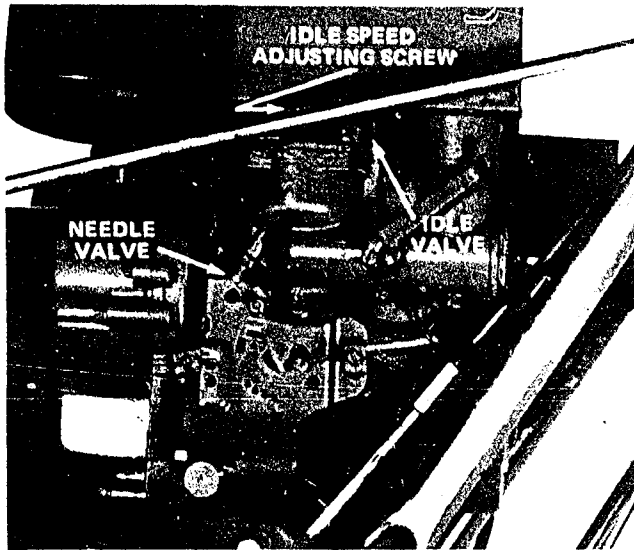

Figure 41
1. Needle Valve (Fig. 41) — Close needle valve by gently rotating it clockwise.
2. Rotate — open — needle valve (Fig. 41) 1-1/8 turns counterclockwise.
3. Idle Valve (Fig. 41) — Close idle valve by gently rotating it clockwise.
4. Rotate — open — idle valve (Fig. 41) 1-1/8 turns counterclockwise.
6. Rotate needle valve (Fig. 41) clockwise — in — until engine misses because of a lean gasoline mixture. Then rotate needle valve counterclockwise — out — so engine runs unevenly because of a rich gasoline mixture. Next, rotate needle valve clockwise, back to the midpoint between the rich and lean setting so engine runs smoothly.
rotate idle speed adjusting screw (Fig. 41) until engine idles fast — 1750 rpm.
8. Rotate idle valve (Fig. 41) clockwise — in — until engine begins to miss because of a lean mixture. Then rotate idle valve counterclockwise — out — until engine runs unevenly because of rich mixture. Next, rotate idle valve clockwise, back to the mid-point between rich and lean setting.
9. Again, rotate idle speed adjusting screw (Fig. 41) until engine idles at 1750 rpm.